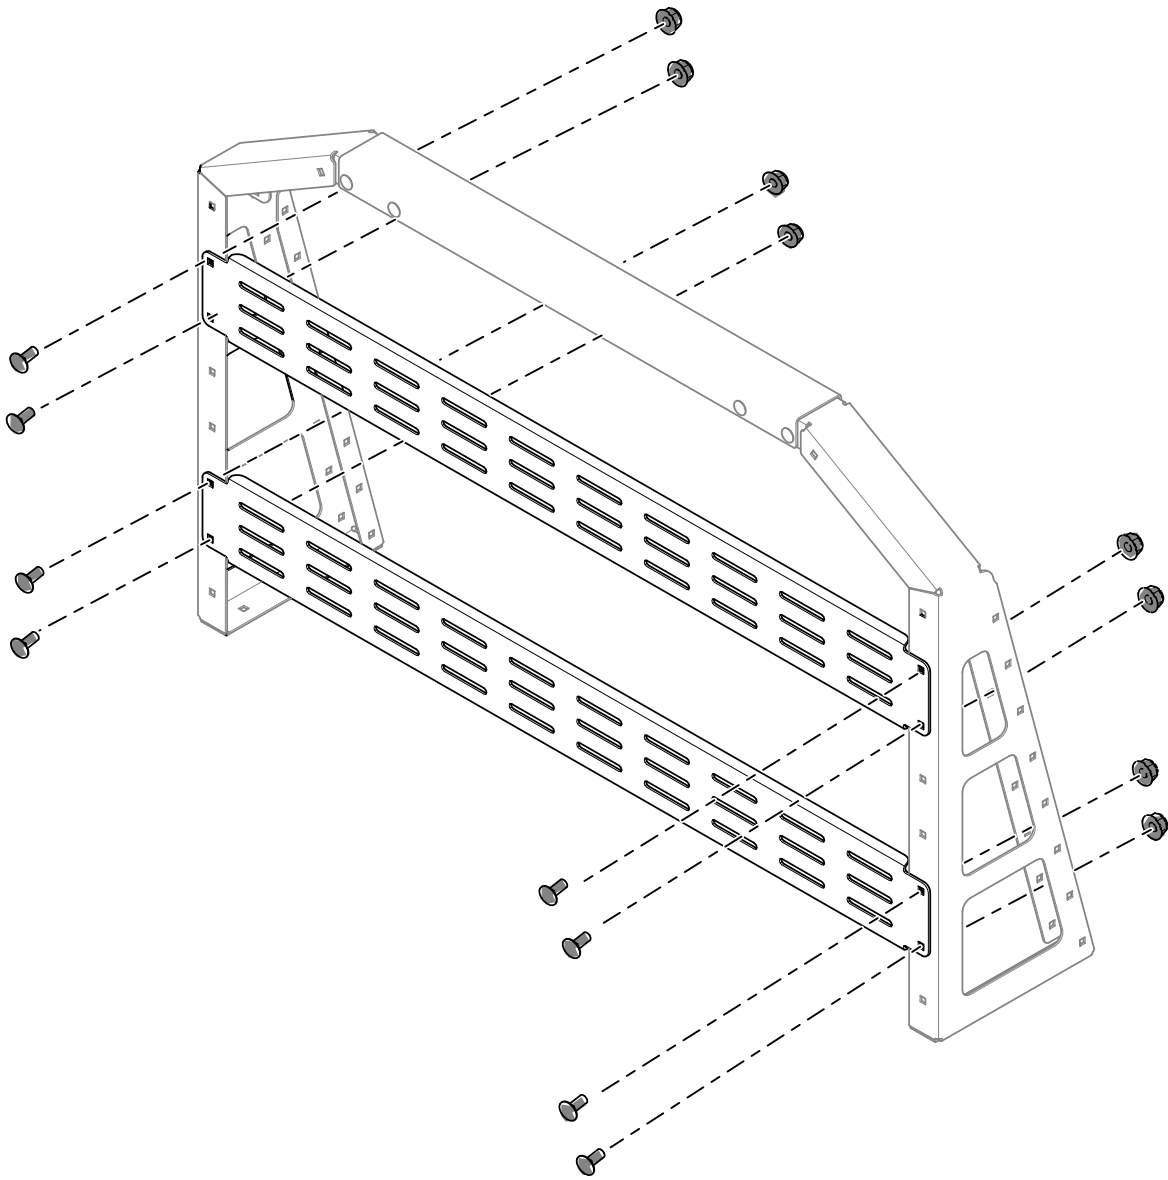

Figure 2
2. Loosely secure the center bars to the rack framing using 8 carriage bolts (5/16 x 3/4 inch) and 8 locknuts (5/16 inch) as shown in Figure 2.